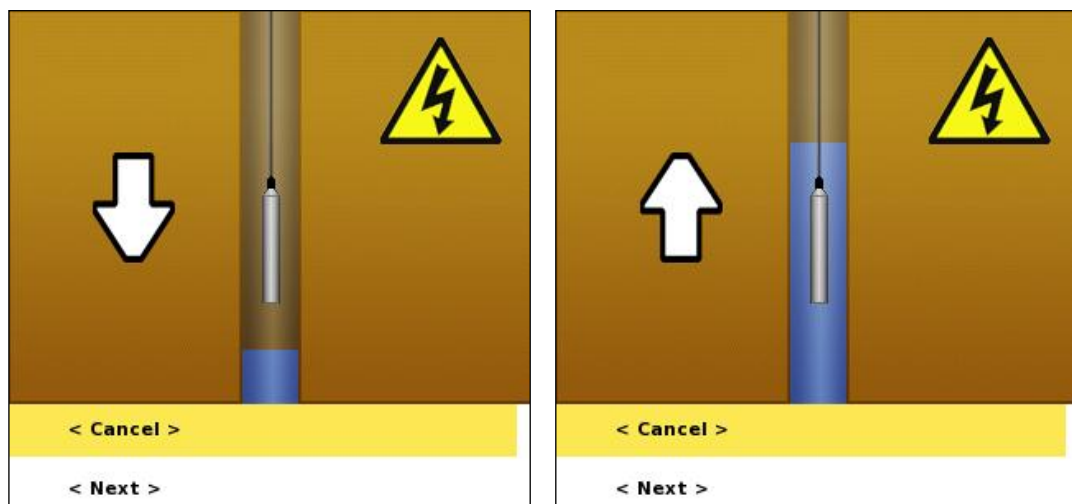

Figure 90 Level Indicator dialog
- A level indicator dialog is shown (Figure 90). The picture on the dialog will change automatically depending on whether water is detected or not, respectively showing that the probe should be lowered or raised to more accurately determine the water level.